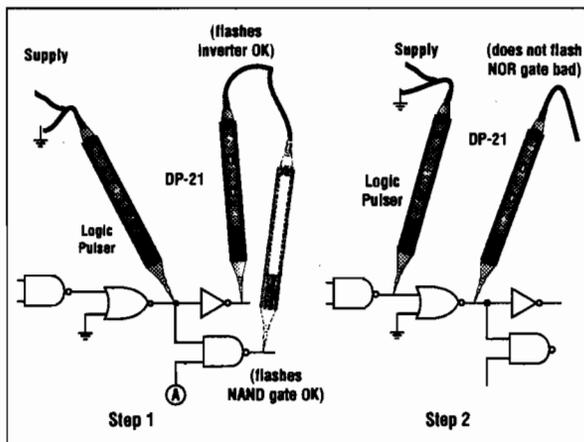
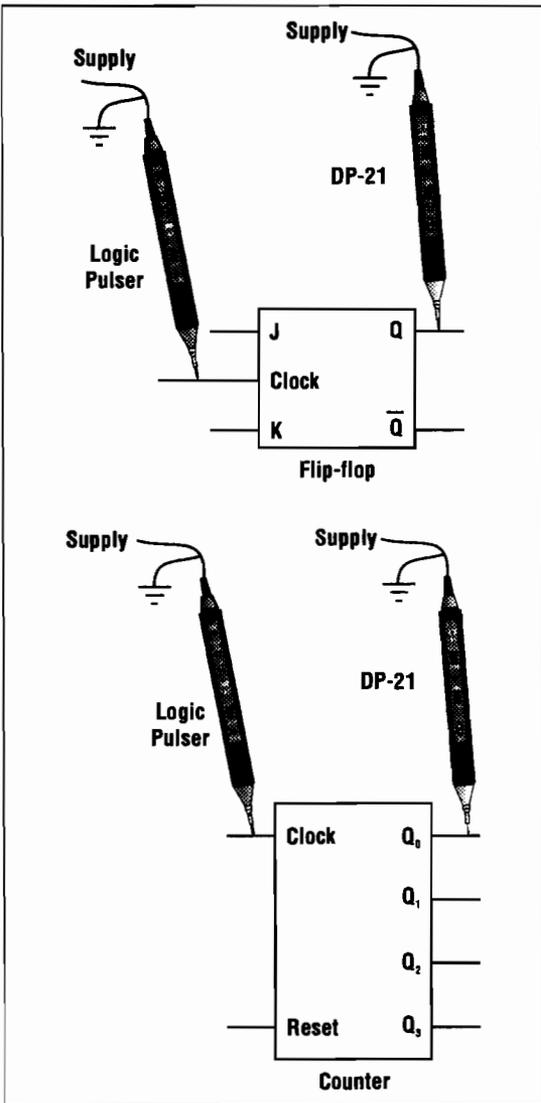

Figure 3.
Figure 4.
2. Hold the tip of the DP-21 on the output of a suspected bad gate, as in Figure 3, or the output of a flip-flop or counter, as in Figure 4.
Devices in-circuit are usually affected by other circuits. For example, in Figure 3, if input A of the NAND gate is brought low by some other circuit, the output cannot toggle. Similarly, in Figure 4, inputs J and K must be high for the flip-flop to toggle, and an active Reset input on the counter will prevent it from counting. Other circuits may also be affecting the inputs dynamically while you are testing the device. The inputs should be checked with the logic probe to see if such conditions exist.